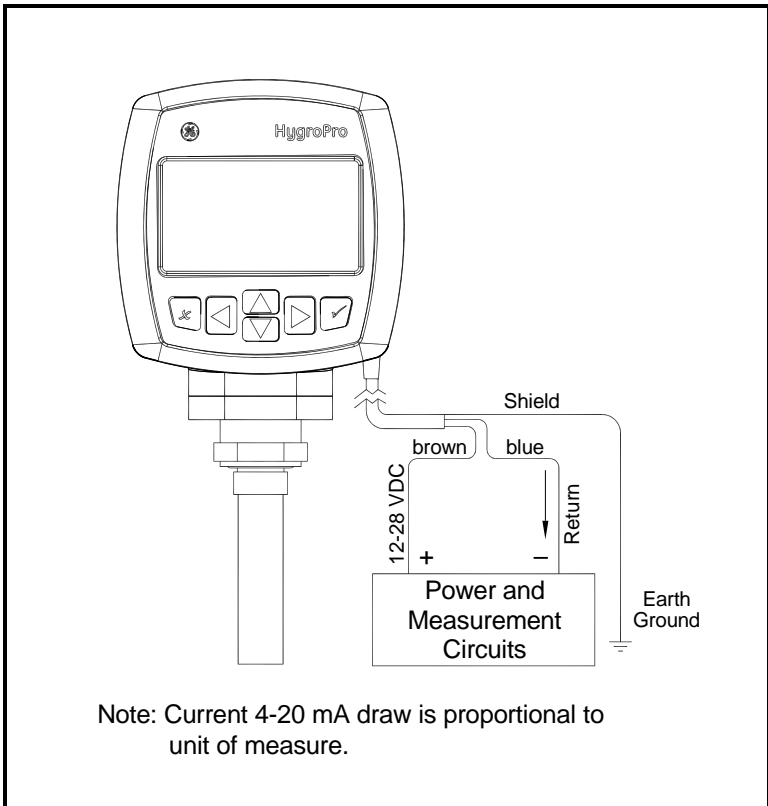

Figure 3: Standard Wiring Connections
2. Using the flying leads at the other end of the transmitter cable, connect the transmitter to the power supply and data acquisition system (DAS) as shown in Figure 3 on page 7. Refer to Table 1 below for a description of the leads in the factory-supplied cable.